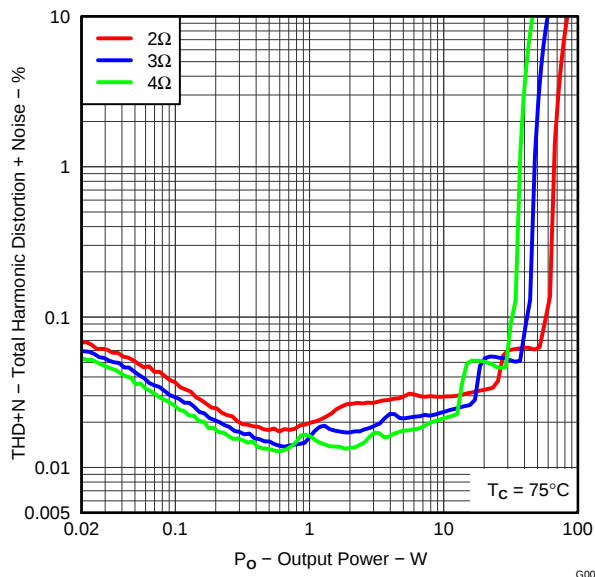

Figure 20. Total Harmonic Distortion + Noise vs Output Power
capacitors and differential LC filter as shown in Figure 20.
- Pins 29, 30, 31, 36, 37, 38 - Power supply pins to half-bridges A, B, C, and D. A and B form a full-bridge and C and D form another full-bridge. A 470- μ F bulk capacitor is recommended for each full-bridge power pins. Two 0.22- μ F decoupling capacitors are placed on each full-bridge power pins. See Figure 20 for details.